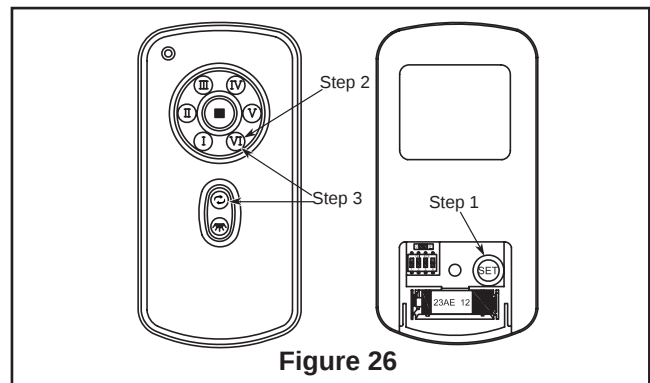

Figure 26
Step 2: Speed Setting: After step 1 is complete, press/release the high speed (VI) button and allow fan to run for 120 seconds. This will configure the speeds within the motor electronics.
Step 3: Performing Speed Settings for the reverse speeds: Press/release the reverse button on the remote control. Once fan has reversed, press/release the high speed (VI) button and allow the fan to run for 120 seconds. (Figure 26).